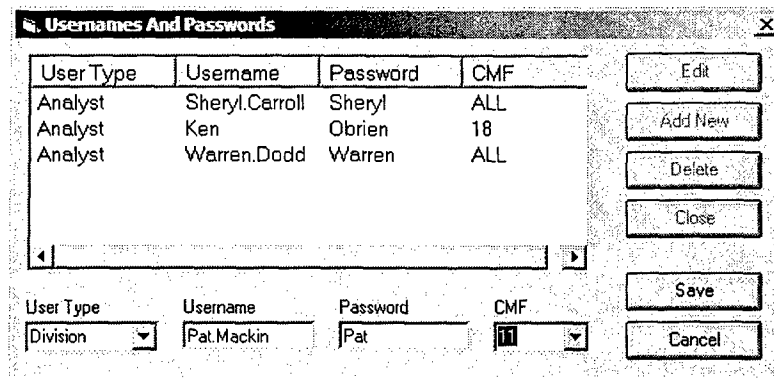

Figure 14. Add New User
3. Figure 14 illustrates the process of adding a new user, although the process for editing an existing user is analogous. Select a user type (Analyst or Division), enter a Username and Password and select a CMF. Division users cannot edit plans; they can only view reports. Selecting a CMF other than All will restrict the user to see data or plans only for skills in the selected CMF. Click *Save* to add the user.